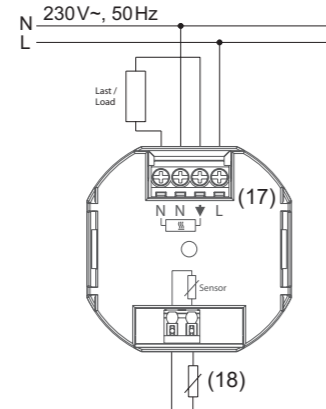

Figure 6: Connection diagram
- Connect controller according to connection diagram (Figure 6).
■ Connect temperature sensor according to connection diagram (Figure 6, 18).